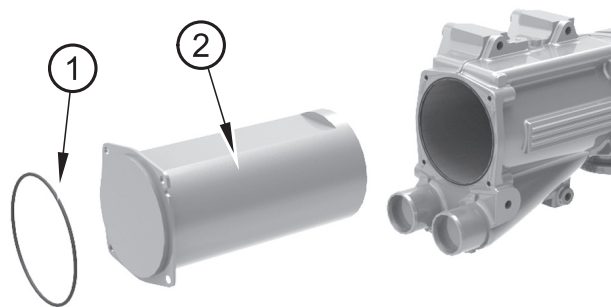

Figure 19
1. Remove O ring seal (figure 19 item 1) and tubestack (item 2).